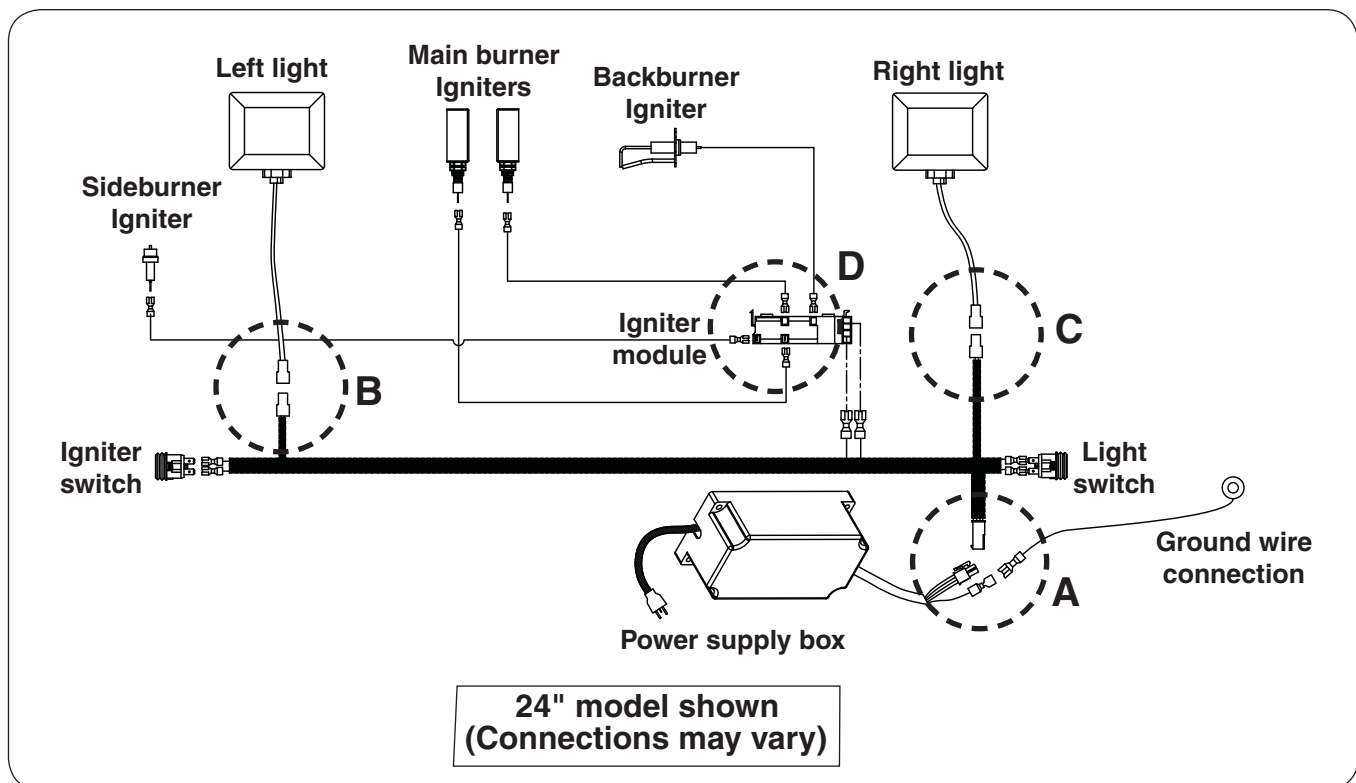

Fig. 31-1 - Wire diagram
2. Disconnect the main wire harness connections (**A**), the left light connection (**B**), the right light connection (**C**), and the igniter wires (**D**). It is recommended to temporarily label the wires for reference when reconnecting. See Fig. 31-1. When disconnecting, be sure to pull from the connectors, and not the wires.